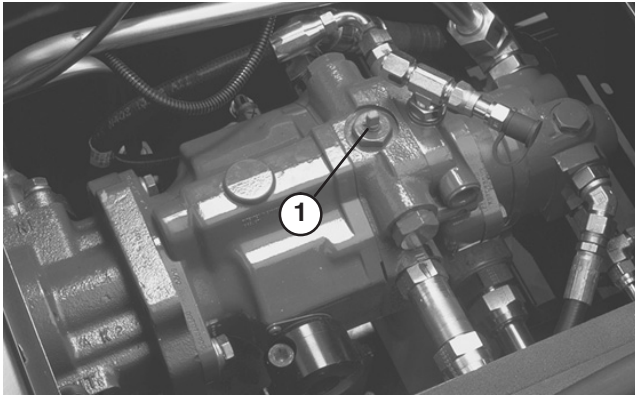

Figure 19
3. Rotate by-pass valve 90 degrees (Fig. 19). Opening the valve opens an internal passage in the traction pump, thereby by-passing hydraulic oil. Because oil is by-passed, traction unit can be moved without damaging the hydraulic system.